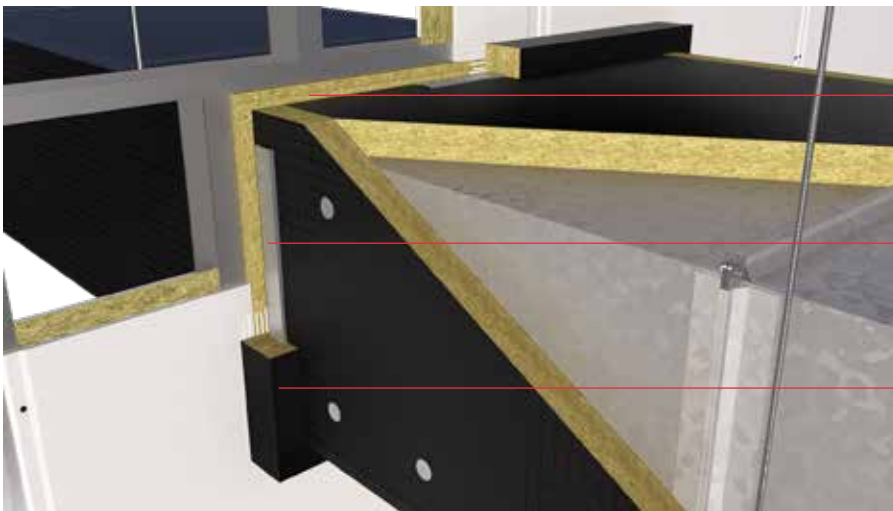

Figure 9
2. Fill the remaining annular space between the Conlit Ductboard Slab and supporting structure of the dry wall system with ROCKWOOL insulation as shown in Figure 9.
5. Once the u-profiles have been applied an insulated collar must be installed around the perimeter of the aperture. The collar can be simply cut from the Conlit Ductboard Slab. Fix the collars in place with ROCKWOOL Glue as shown in Figure 9. Use nails to temporarily hold the collars in place whilst the glue cures.